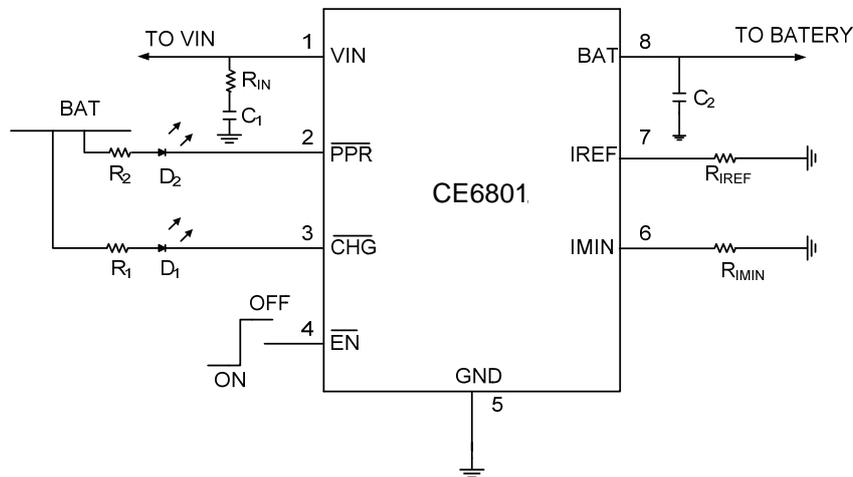
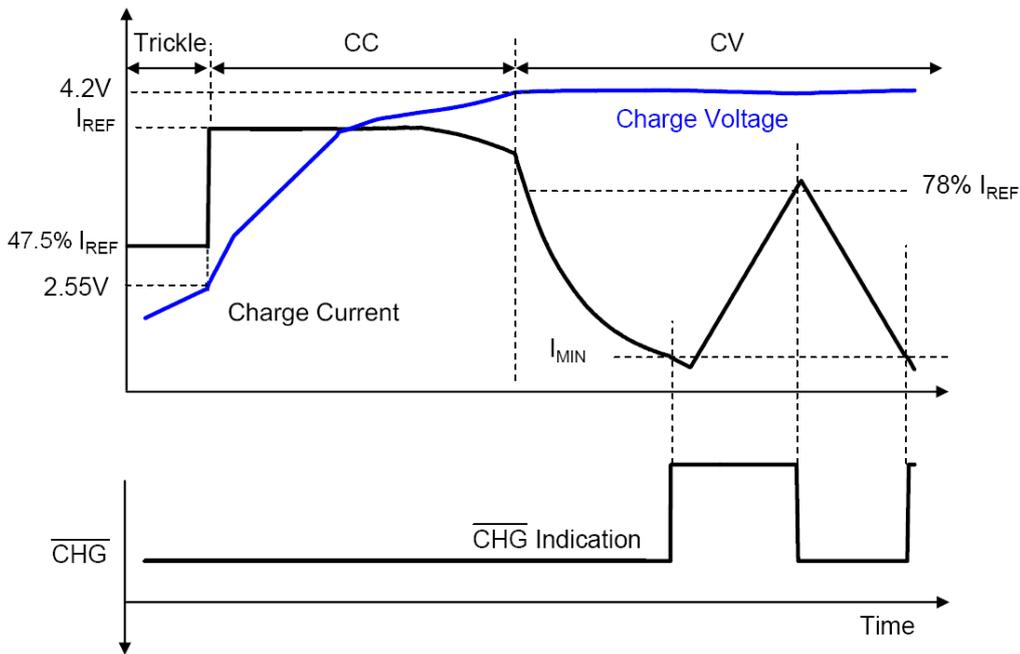

Figure1 Typical Application Circuit Interfacing to Indication LEDs
Figure3 Typical Charge Profile
COMPONENT DESCRIPTION FOR Figure1
The CE6801 charges a Li-Ion battery using a CC/CV profile. The constant current I_{REF} is set with the external resistor R_{IREF} (see Figure 1) and the constant voltage is fixed at 4.2V or 4.35V. If the battery voltage is below a typical 2.55V, or
4.2V or 4.35V. When the battery voltage reaches 4.2V or 4.35V, the charger enters a CV mode and regulates the battery voltage at 4.2V or 4.35V to fully charge the battery without the risk of over charge. Upon reaching an full-of-charge (FOC) current, the charger indicates the charge completion with the CHG pin, but the charger continues to output the 4.2V or 4.35V voltage. Figure 3 shows the typical charge waveforms after the power is on.
The FOC current level I_{MIN} is programmable with the external resistor R_{MIN} (see Figure 1). The CHG pin turns to low when the trickle charge starts and rises to high impedance at the FOC. After the FOC is reached, the charge current has to rise to typically 78% of I_{REF} for the CHG pin to turn on again, as shown in Figure 3. The current surge after FOC can be caused by a load connected to the battery.
The PPR pin is an open-drain output to indicate the presence of the AC adapter. Whenever the input voltage is higher than the POR threshold, the PPR pin turns on the internal open-drain MOSFET to indicate a logic low signal, independent on the EN pin input. When the internal open-drain FET is turned off, the $\overline{\text{PPR}}$ pin leaks less than $20\mu\text{A}$ current. When turned on, the $\overline{\text{PPR}}$ pin is able to sink at least 15mA current under all operating conditions. The $\overline{\text{PPR}}$ pin can be used to drive an LED (see Figure 1) or to interface with a micro-processor.
IMIN is the end of charge current when $\overline{\text{CHG}}$ indicates a full of charge condition. All current out of the CE6801 BAT pin should be counted into IMIN, including load current and the indication LED currents. As illustrated in Figure 3, the CE6801 continues to supply current unless it is disabled by $\overline{\text{EN}}$ pulled high, regardless of the status of $\overline{\text{CHG}}$ pin. When charge current ever goes lower than IMIN, $\overline{\text{CHG}}$ pin stays high impedance until the charge current goes higher than 78% of IREF, which is another factor to consider in design of IREF, IREF should be high enough to so that 78% of IREF is higher than the